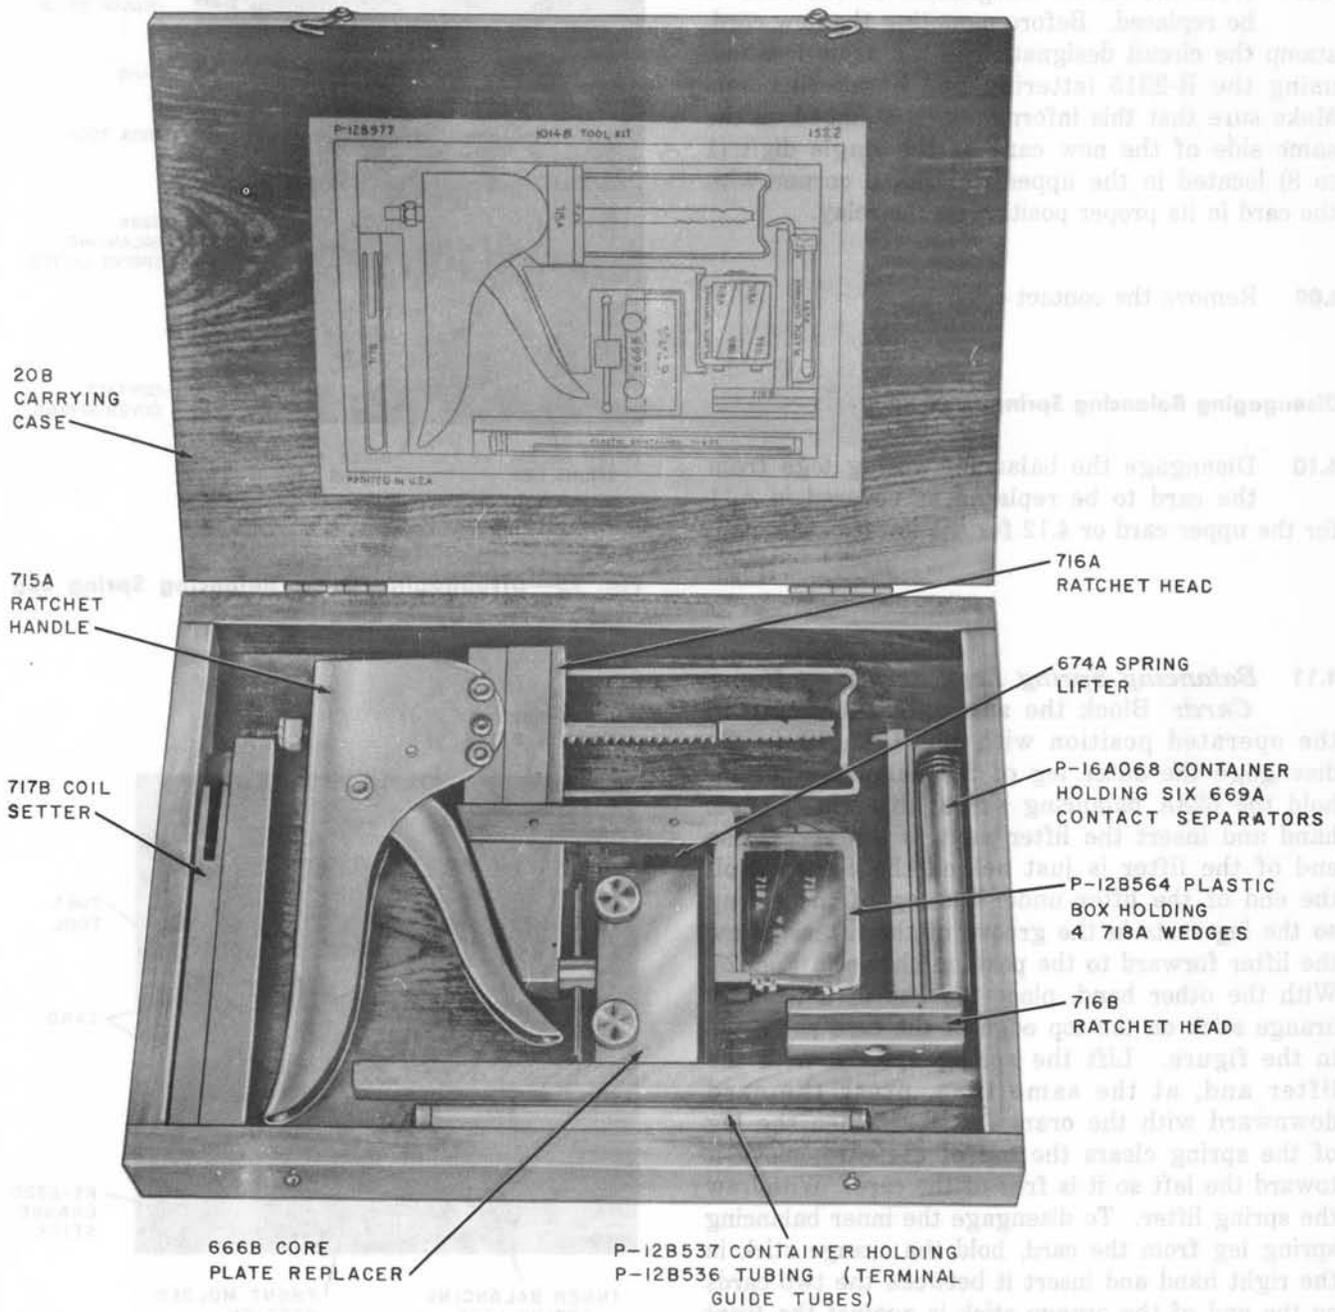

Fig. 24—1014B Tool Kit
4.02 1014B Tool Kit: Fig. 24 shows the tools comprising the 1014B tool kit used for replacing coils on wire-spring type relays. The 716A ratchet head, 666B core plate replacer, 669A separators, and the 674A spring lifter furnished with the tool kit are not required for AK-type relays. The 716A ratchet head is used for AF-, AG-, AJ-, 286-, 287-, and 288-type relays. The 666B core plate replacer, 669A separators, and 674A spring lifter are used on 286-, 287-, and 288-type